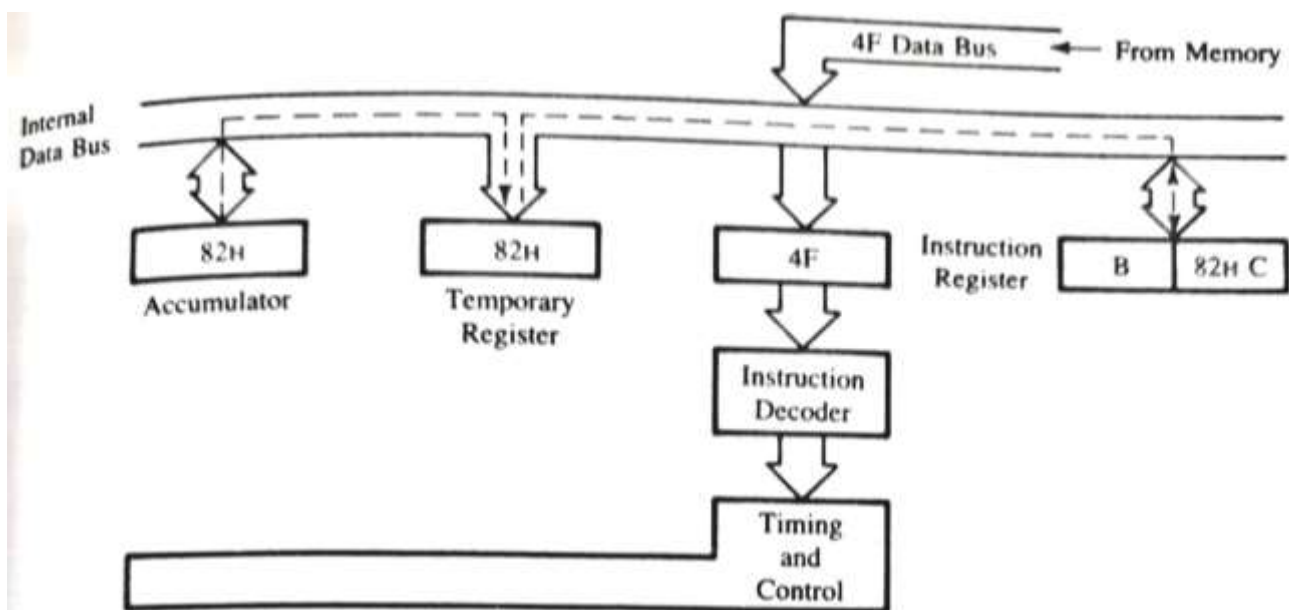

FIGURE .8 Instruction Decoding and Execution
1. Places the contents of the data bus (4FH) in the instruction register (Figure 8) and decodes the instruction.